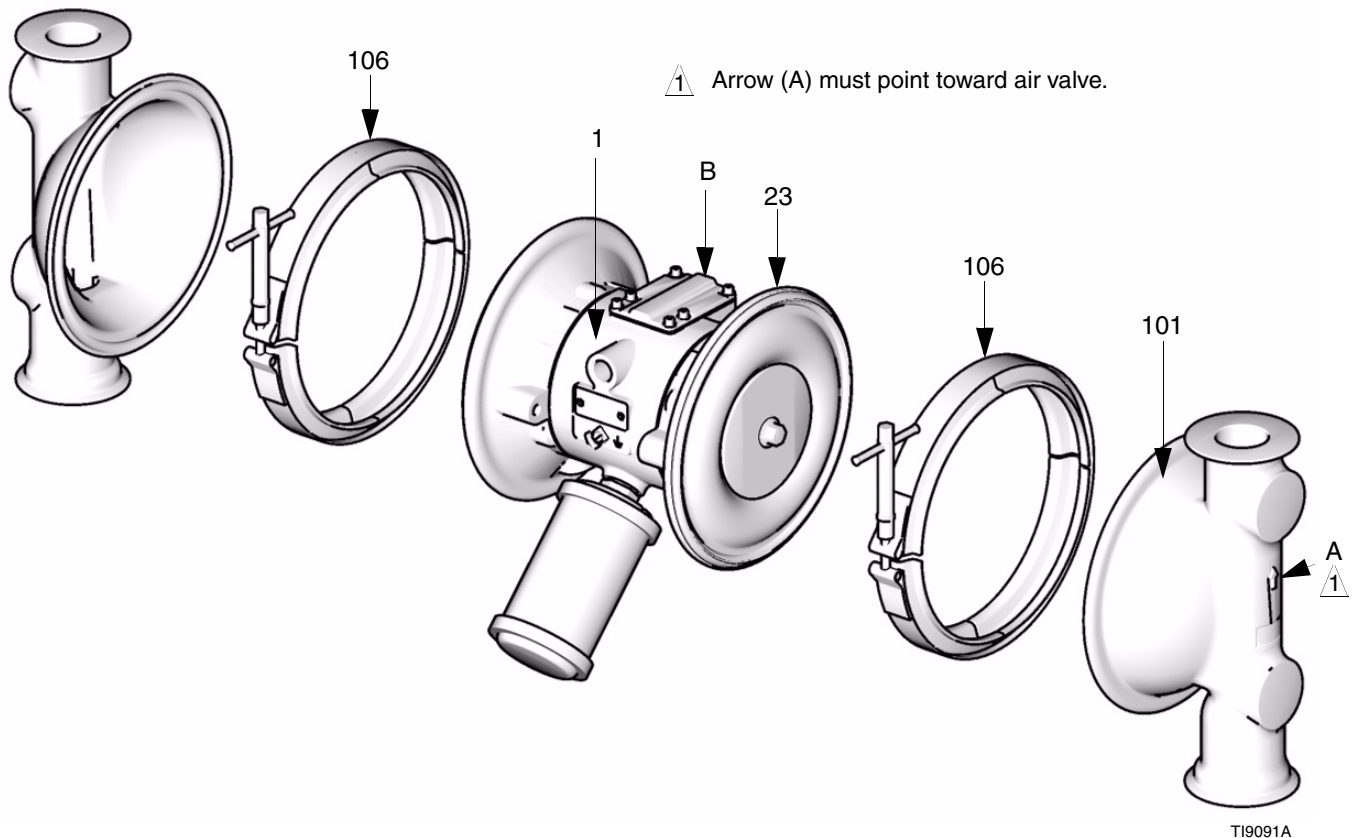

FIG. 10
3. Remove the clamps (106) holding the fluid covers (101) to the air covers (23). Pull the fluid covers (101) off the pump. See FIG. 10.
- c. Install the diaphragm (403*). Make certain the side marked AIR SIDE faces the center housing (1).
- d. On PTFE models only, install the backer (401*) on the bolt. Make certain the side marked AIR SIDE faces the center housing (1).
- e. Install the air side diaphragm plate (104) so the rounded side faces the diaphragm (401). This plate is stamped with its part number.
- f. Apply medium-strength (blue) Loctite® or equivalent to the bolt (107) threads. Screw the bolt into the shaft (24) hand tight.
3. Grease the length and ends of the diaphragm shaft (24), and slide it through the housing (1).
5. Hold one shaft bolt (107) with a wrench and torque the other bolt to 60-70 ft-lb (81-95 N•m) at 100 rpm maximum.
6. Align the fluid covers (101) and the center housing (1) so the arrows (A) on the covers face the same direction as the air valve (B). Secure covers with the clamps. See FIG. 10.